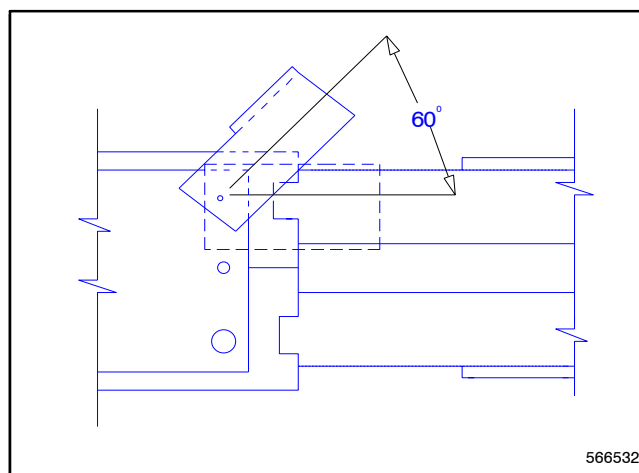

Figure 2-8 Panel Latch
4. Release the slide locks (Note: Raise the slide locks approximately 60° to disengage.) See Figure 2-8.